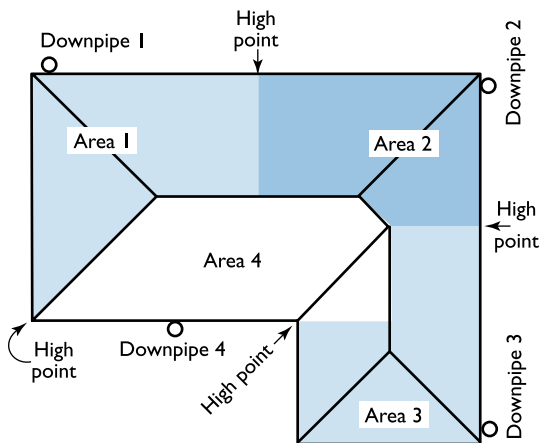

Figure 6.2.3
9. On the plan, select locations for the downpipes and the high points in the gutters. Where practical, the catchments for each downpipe should be about equal in area; and a high point should be located at the bottom of any valleys (Figure 6.2.3).